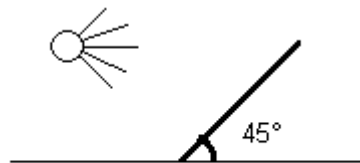

Figure 4: Tilt angle for solar panel (here 45°)
- Angle: The optimum tilt angle (see **Figure 4**) depends on the latitude of the site. If the data logger is to be used all year round, we recommend a tilt angle for optimum winter performance: